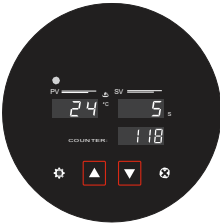

Fig. 2
2. Press Up (▲) or Down (▼) buttons to select the desired temperature (Fig. 2). The selected temperature is flashing on the display.